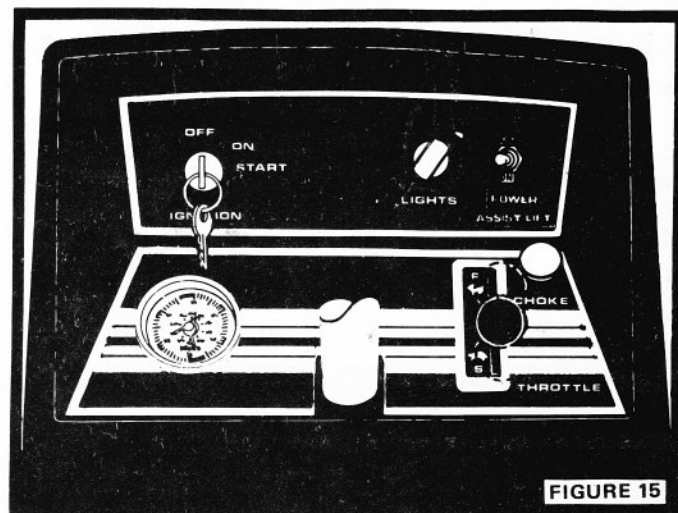

FIGURE 15
6. Move Throttle Control Lever to middle position (Fig. 15).
7. Pull Choke out (Fig. 15).
8. Turn Ignition Key to "START" position until Engine starts (Fig. 15). Release key into "ON" position.
NOTE: The Power Assist Lift Switch (Fig. 15) raises or lowers an attachment when used with an Electric Three Point Hitch (optional equipment).